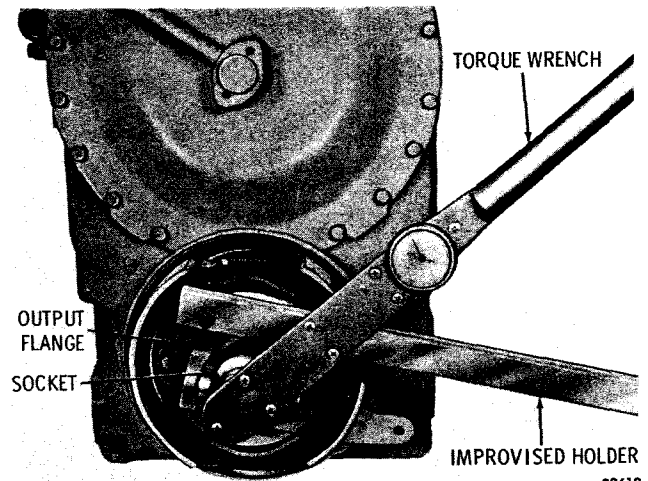

Fig. 7-45. Tightening rear output flange nut
(1) Install torque converter drive cover 19 or 23 and attached part (as assembled in para 6-5) onto the converter pump. Install twenty-four 5/16-24, self-locking nuts 18 to retain the cover. Tighten the nuts to 14 to 18 pound feet (19 to 24 Nm) torque.
(2) Install gasket 13 onto the converter housing front splitline. Install transmission front cover 12 and oil seal 10 (as assembled in para 6-4) and secure it with twelve 3/8-24 x 2-inch bolts 11, lockwashers 20, and 3/8-24 nuts 21. Tighten the nuts to 33 to 40 pound feet (45 to 54 Nm) torque.
(3) Install coupling assembly 6 or input flange 7, 8, or 9 onto input shaft 17 or 22. Refer to paragraph 4-8b.
(4) The input flanges are retained with either two self-locking bolts (used with input shaft 22) or one self-locking nut and washer (used with input shaft 17). If input shaft 22 is used, retain the input flange with flange retaining washer 3, lockstrip 2, and two self-locking bolts 1. Tighten the bolts to 41 to 49 pound feet (56 to 66 Nm) torque, and bend the ears of the lockstrip against the bolt heads. If input shaft 17 is used, apply molybdenum disulfide grease (Molykote Type G, or equivalent) onto the shaft threads and install flange washer 5 and self-locking nut 4. Tighten the nut to 450 to 700 pound feet (610 to 949 Nm) torque while holding the flange or coupling to prevent it from rotating (fig. 7-45).
(4) Apply molybdenum disulfide grease (Molykote Type G, or equivalent) onto the threads of 1 1/4-12 flange retaining nut 10 (B, foldout 8) and install washer 9 and nut 10 onto the output shaft. Attach an improvised holder to the flange ears as shown in figure 7-45, and tighten the nut to 450 to 700 pound feet (610 to 949 Nm) torque.
(7) Using an improvised holder and torque wrench in a manner similar to that shown in figure 7-45, tighten the nut to 450 to 700 pound feet (610 to 949 Nm) torque.
(8) Using an improvised holder and torque wrench (1 1/4-inch socket) in a manner similar to that shown in figure 7-45, tighten PTO flange retaining nut 29 (B, foldout 6) to 275 to 325 pound feet (373-440 Nm) torque.